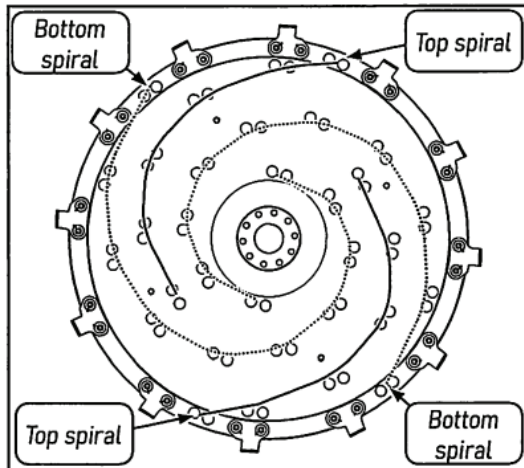

Figure 7
15. Before beginning the installation of the top and bottom tooth holders, it is important to identify the tooth spirals [Figure 7]. The bottom tooth spirals start closer to the center. Trace the spirals with a marker to identify the top and bottom spirals.